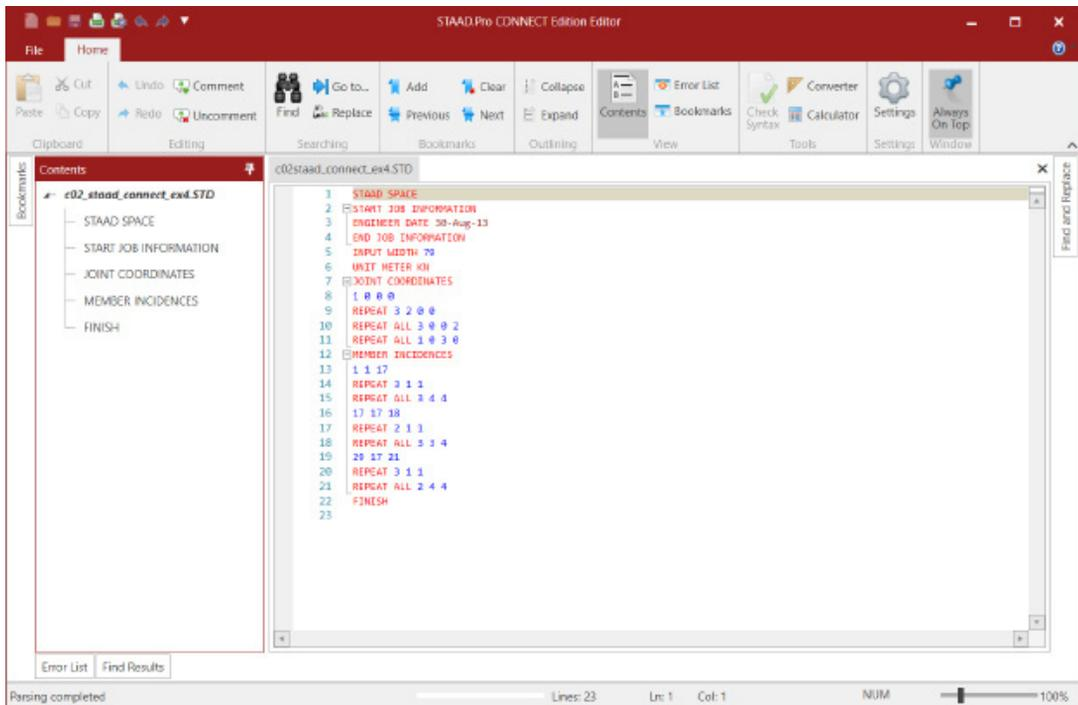

Figure 2-15 Commands for creating members in the STAAD Editor window
Step 8: Next, specify the command in the **STAAD Editor** window, as shown in Figure 2-15, to create the remaining members as given below and the structure is completed, as shown in Figure 2-14.